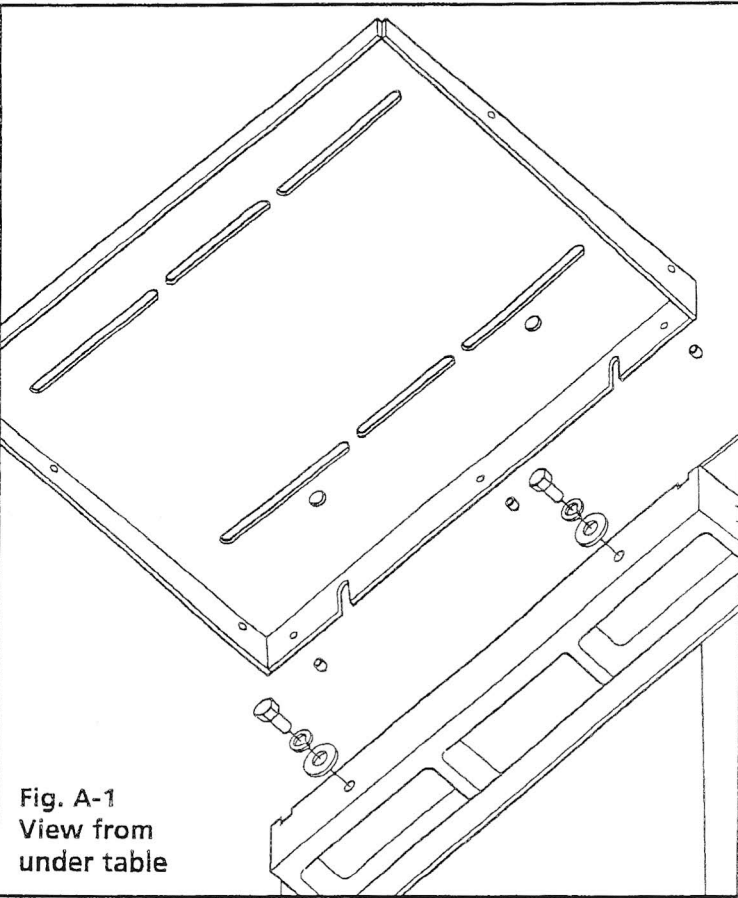

Fig. A-1
1. To install the extension tables, first put (1) lock washer, then (1) flat washer on each of the (4) bolts. Start the bolts into the threaded holes in the infeed and outfeed ends of the planer bed, leaving at least 1/4" between the planer bed and flat washer. (see fig. A-1 below).
4. Install (1) allen set screw in each of the small holes near the extension table mounting bolts (see fig. A-1 above).